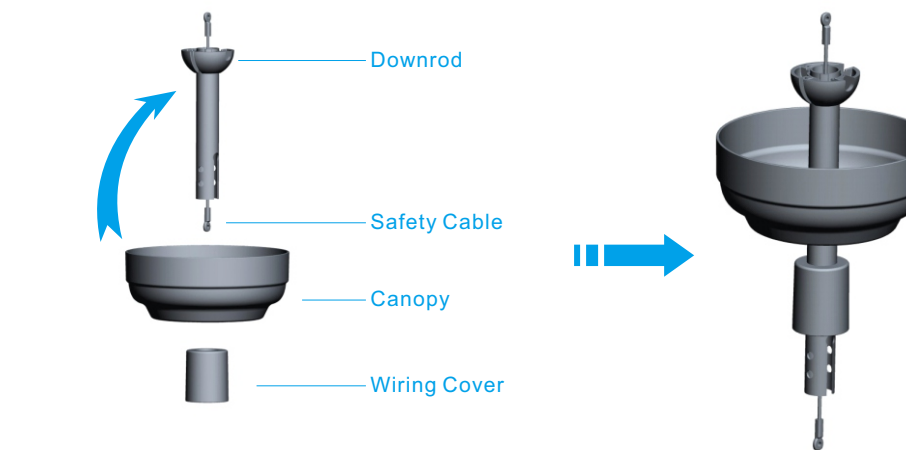

Fig 3.1
- 3.1 Assemble downrod as pictured in Fig.3.1. (Please select the suitable length of rod for your ceiling.)